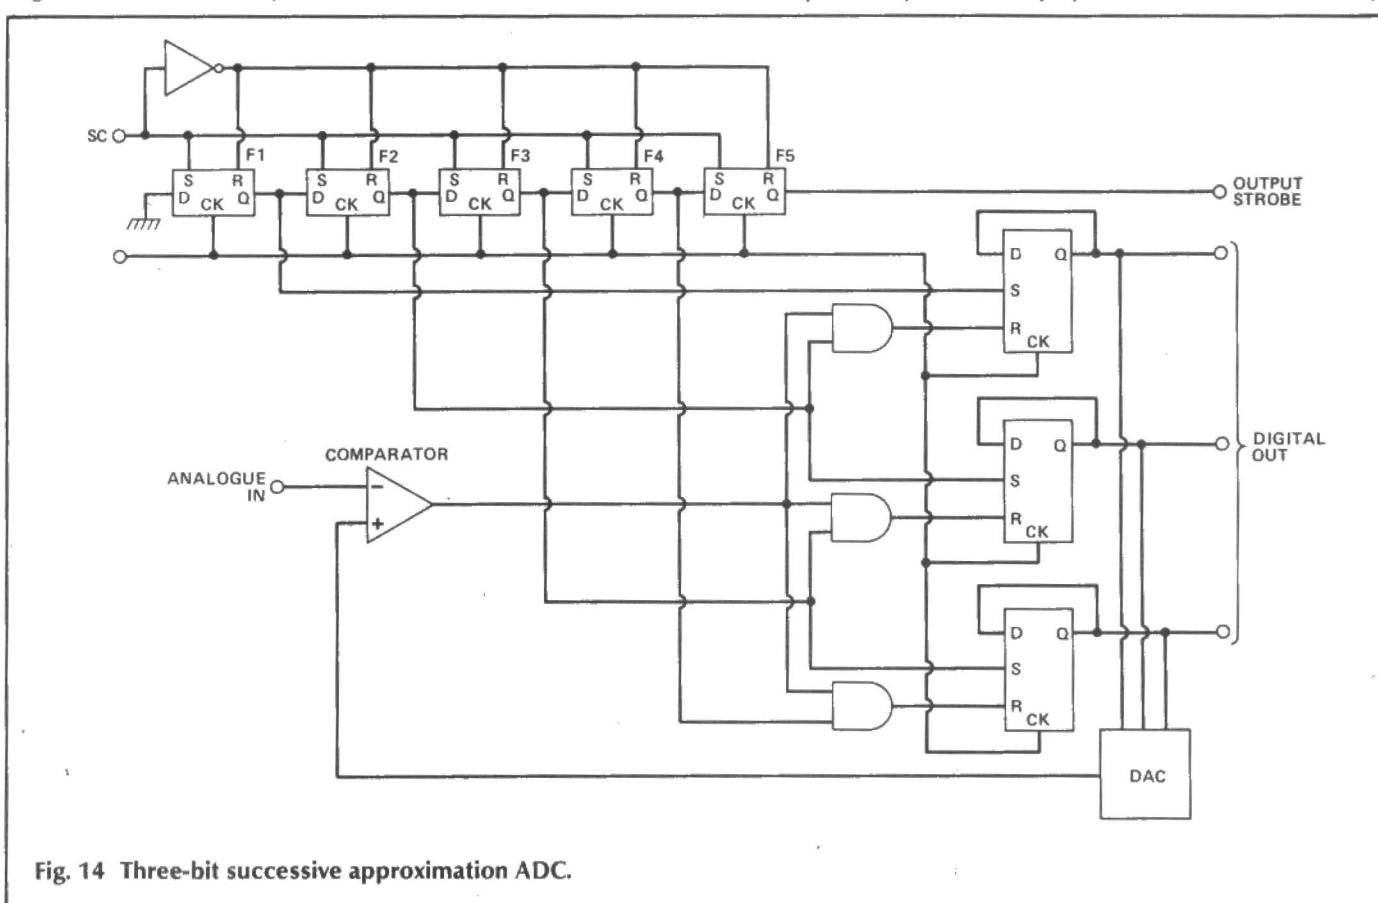

Fig. 14 Three-bit successive approximation ADC.
The basic hardware implementation of a successive-approximation (SA) register, using S-R flip-flops, is shown in Fig. 14. The top line of flip-flops is the sequencer, which puts a one in successive code register flip-flops, MSB first. The bottom line of flip-flops is the code register,